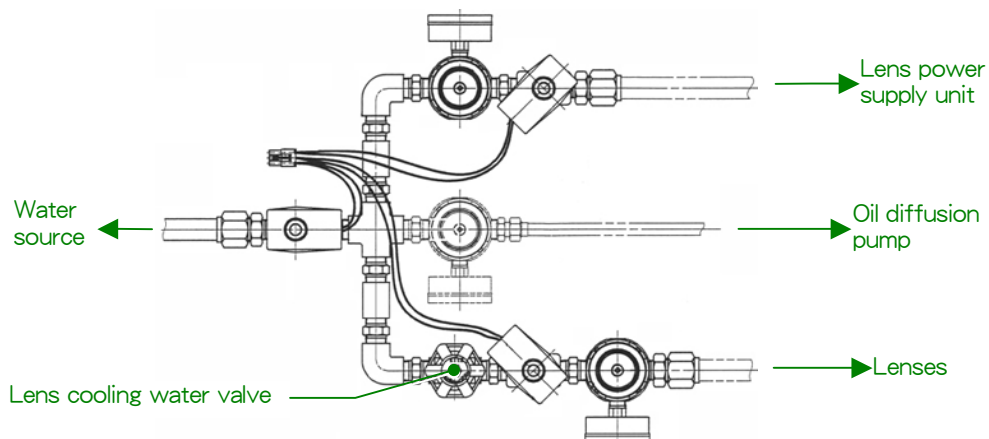

Fig. 6.23 Lens cooling water valve
6. Close the lens cooling water valve (Fig. 6.23).
9. Fully open the lens cooling water valve (Fig. 6.23); then turn on the LENS switch (L2-③).